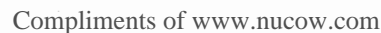
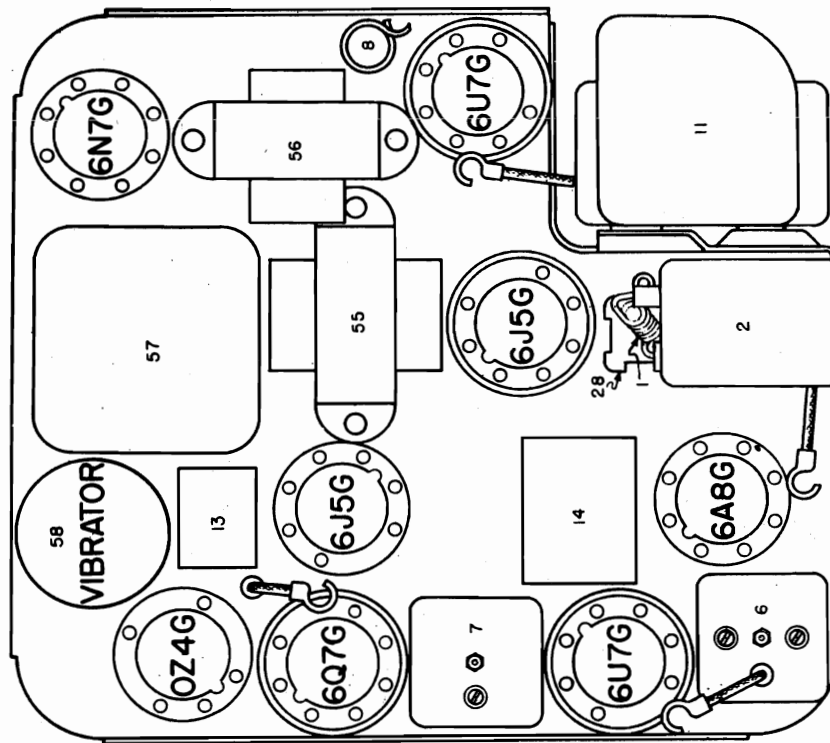

FIG. 1 MODEL 982083 - CIRCUIT DIAGRAM
FIG. 2 PARTS LAYOUT-TOP VIEW
1. Ground the Gang Condenser can as shown in Figure 2.
1. The Bond that grounds the Gang Condenser to the Antenna Coil can should be held against the Gang Condenser bracket and soldered. This is shown in Figure 1 before change, and Figure 2 after change.
- e. Adjust the trimmers on the I-F coils (Illustration 6 and 7, Figure 2) for maximum output. These adjustments should be repeated several times and during alignment, the test oscillator output should be kept to as low a value as is consistent with obtaining a readable indication on the output meter.
- d. Adjust the oscillator padding condenser (Illustration 28, Figure 2) located on the mounting plate of the receiver to maximum output. (This adjustment sets the low frequency tuning range of the receiver to 540 K.C.)